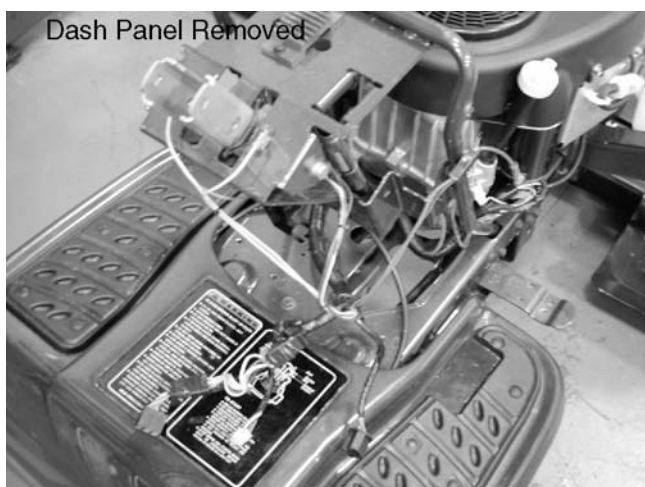

Figure 11-54
24. Remove the dash panel from the tractor. See Figure 11-54.